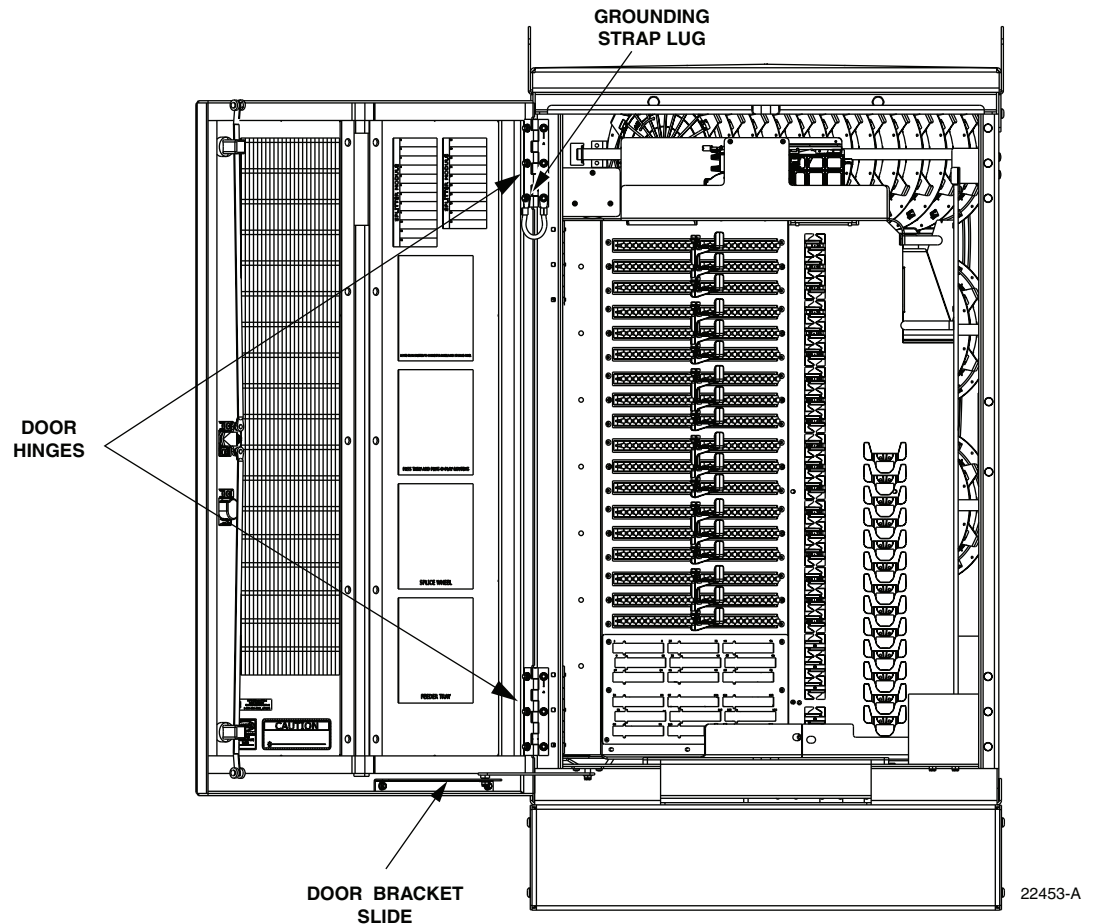

Figure 50. Door Replacement
1. Open the cabinet door and lock it in the open position as shown in Figure 50.
- **Note:** Be sure to re-secure the grounding strap lug (see Figure 50) to the door when securing the hinges to the door.